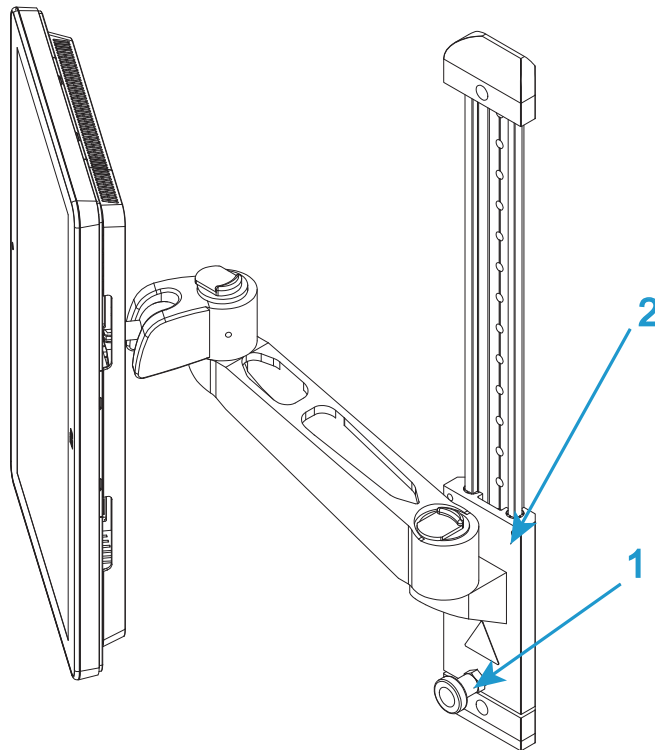

Figure 6. Height adjustment
1. You can adjust the height of the Bluehill[®] Operator Dashboard for the comfort of different operators. Loosen the lock (1 in Figure 6 on page 45) and slide the arm mounting (2 in Figure 6 on page 45) to the desired height. Re-tighten the lock.